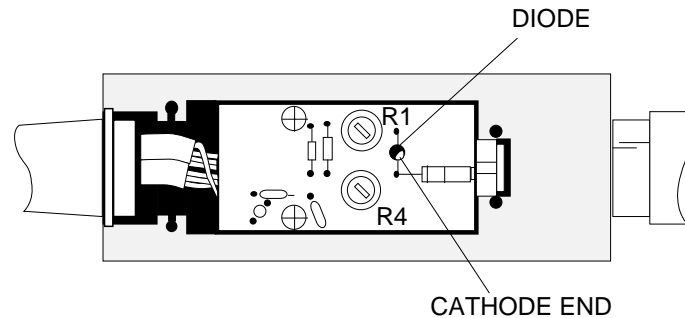

Figure A-1. Model 5400-71B75 RF Detector Housing Layout Diagram
Whenever the detector diode (or diode module) of these RF Detectors is replaced, the two potentiometers that are part of the rf detector PCB subassembly (Figures A-1 and A-4) must be readjusted. The potentiometer readjustment is done after the defective diode is removed, but before the replacement diode is installed.
- Step 2** Unplug the defective diode (Figure A-1) from the PCB subassembly and remove.
- Step 11** Orient the cathode end (white dot) of the replacement diode as shown in Figure A-1 (white dot toward centerline of the detector PCB subassembly). Insert the diode into the socket of the PCB subassembly.